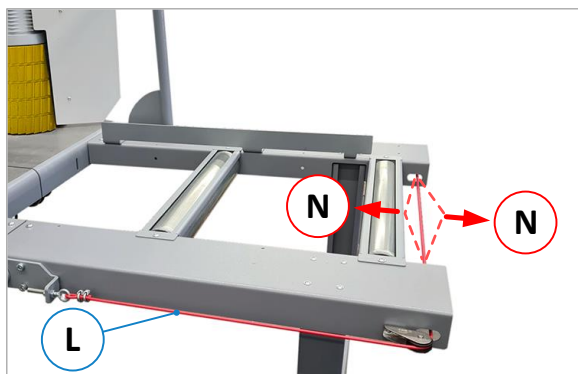

Figure 38: Actuate emergency stop rip cord
- As soon as the ripcord (L) is pulled forward by hand or pushed backwards with the body, the ripcord switch (S) trips and the machine is set to the emergency stop state (N), see ⇒ Figure 38).
- An emergency stop state (N) also occurs in the event of loss of ripcord tension or breakage.